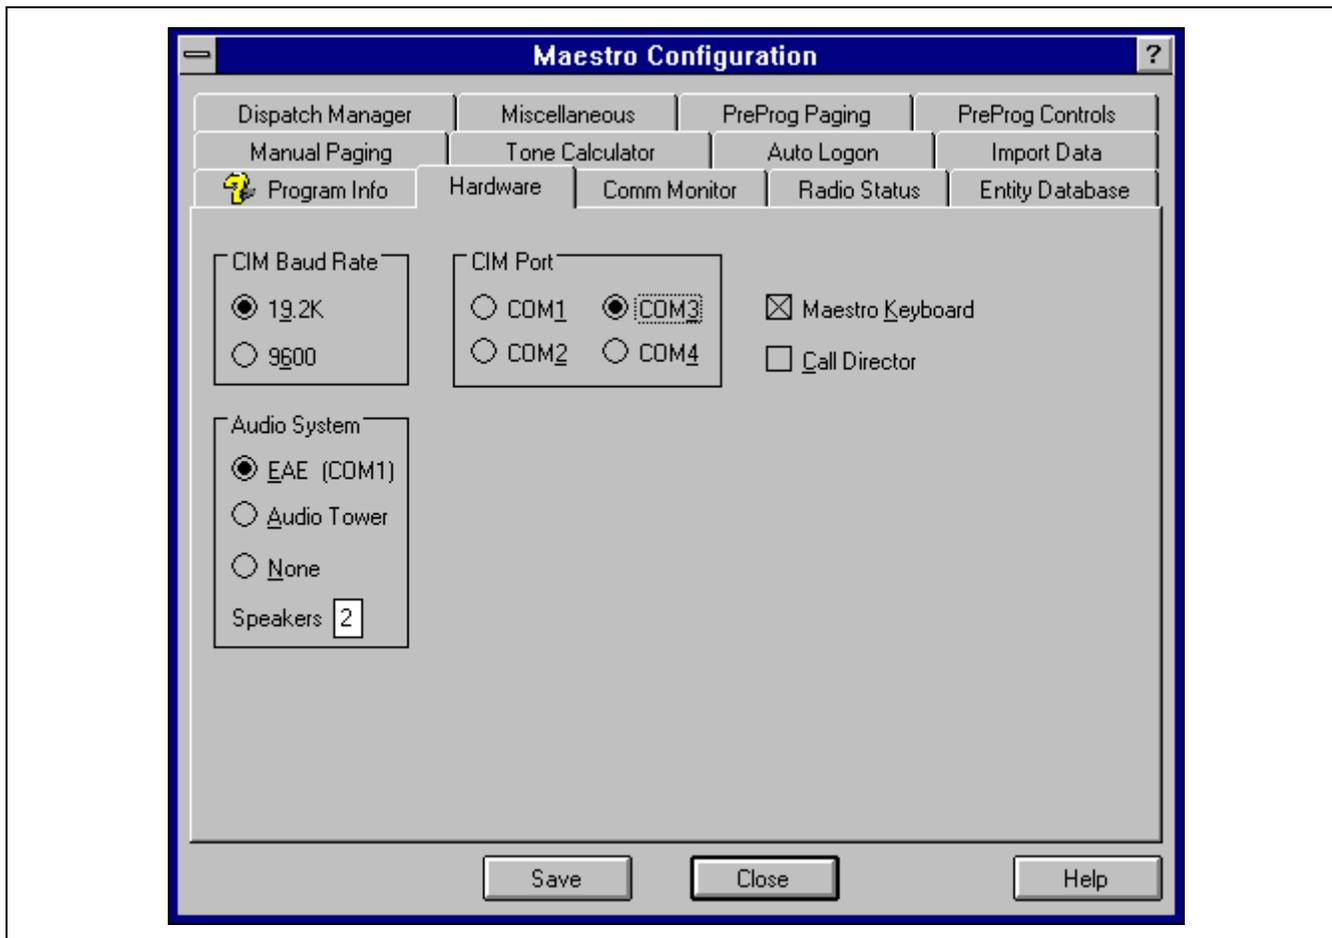

Figure 6-5 — Configuration Editor's Hardware Settings Dialog Box
- **Hardware**—This dialog box allows the user to edit hardware-specific settings such as COM port selections/ baud rates and dispatch keyboard present/absent. See Figure 6-5.
Baud rate selection for the serial control data link between the PC and the CIM within the CEC/IMC is accomplished via the CIM Baud Rate option buttons. Supported rates are 9600 and 19.2K baud, as indicated in Figure 6-5. In most cases the factory default setting of 19.2K baud need not and should not be changed, as this is the recommended baud rate for PC-to-CIM interfacing via RS-422 interfacing.